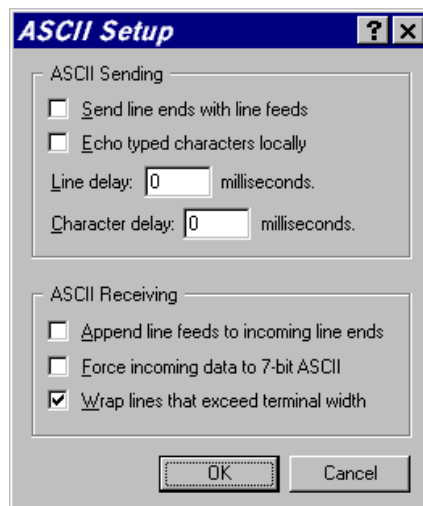

Figure 7-11: ASCII Setup
- Normally, the RCP will not echo back characters typed by the user in a Terminal window. For added security and convenience, turn on Local Echo in the HyperTerminal application. To do so, select the following from the HyperTerminal menu: File → Properties → Settings → ASCII setup. This will bring up a window similar to that shown in **Figure 7-11**. In this window, check the box marked “Echo typed characters locally” and click “OK”.